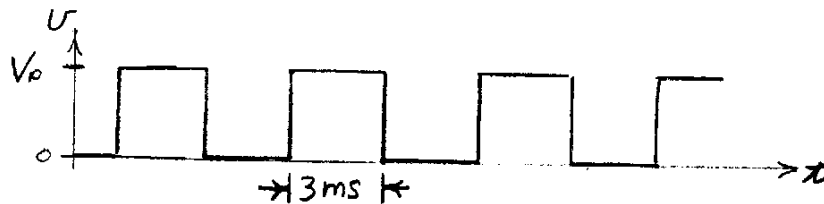

FIGURE 2.1
- 2.07 Apply a 3 millisecond wide square wave to Tab 8. When the peak voltage is between 4 to 6V the light should come on. (See Figure 2.1)